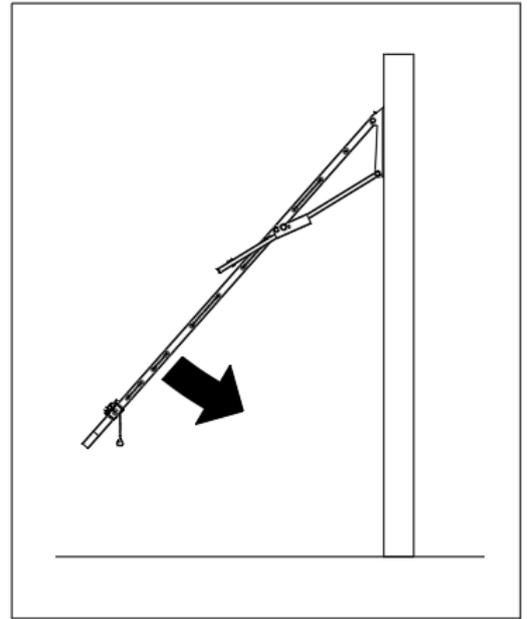

Fig 13. Lower the Clothesline.
- The clothesline can now be lowered all the way. (Fig 13)